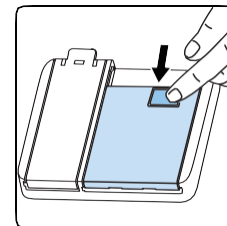

Fig. 1
1. Push the latch to open the detergent container as shown in the image to the right (fig 1).